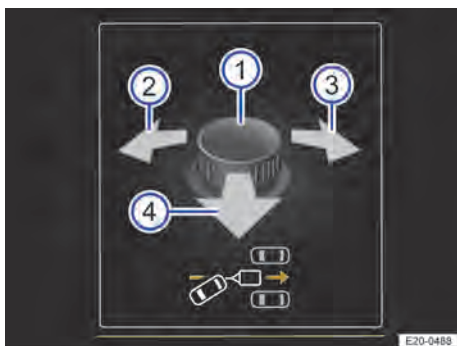

Fig. 119 On the instrument cluster display: adjusting the angle of the trailer using the rotary knob for the exterior mirrors.
- ① Rotary knob for adjusting the exterior mirror position.
- ② Align the trailer to the left.
- ③ Align the trailer to the right.
- ④ Reverse the vehicle and move the trailer towards the target position.
- ⑤ Current trailer position.
- ⑥ Target trailer position.
- ⑦ Zero position on the angle display.
3. Tilt the rotary knob in the driver door until the desired direction is reached → Fig. 119 ①.